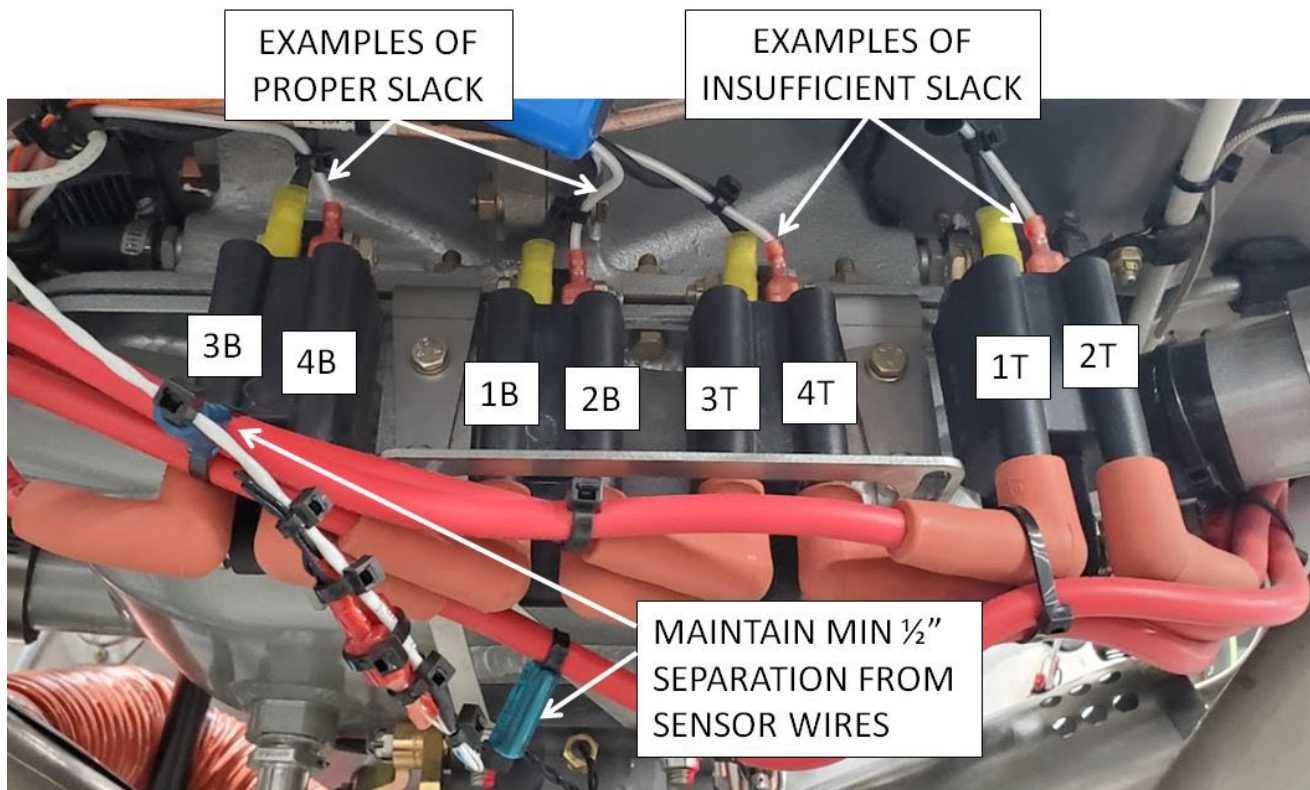

FIGURE 3 – IGNITION COIL CONNECTIONS
- Install the spark plug wires and corresponding ignition wires as shown in Figure 3. Note that the two ignition wires and the two spark plug wires connected to each coil are not polarity-sensitive. Ensure plug wires click and seat fully onto studs. Ensure spade connectors fit tightly onto the coil, and ignition wires have proper slack, referring to SK-SB010 for more detail. Should it be necessary to replace the ignition wires to achieve proper slack, wire and heat shrink part numbers are given as reference in the parts list. Spark plug wire part number information is given in Appendix A.
13. Perform an engine-run on the ground, checking for correct ignition operation per POH/AFM "Before Takeoff" procedures. If problems are found, verify connections per Figure 3 and re-check operation.